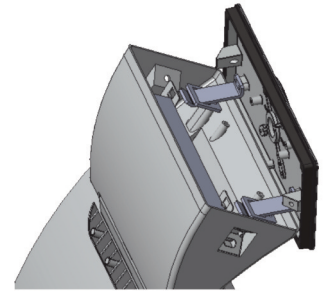

Fig. 9
11. Hook the driver box onto the mounting plate. Allow the fixture to hang by the hooks, to facilitate the wiring process (**Figure 9**).